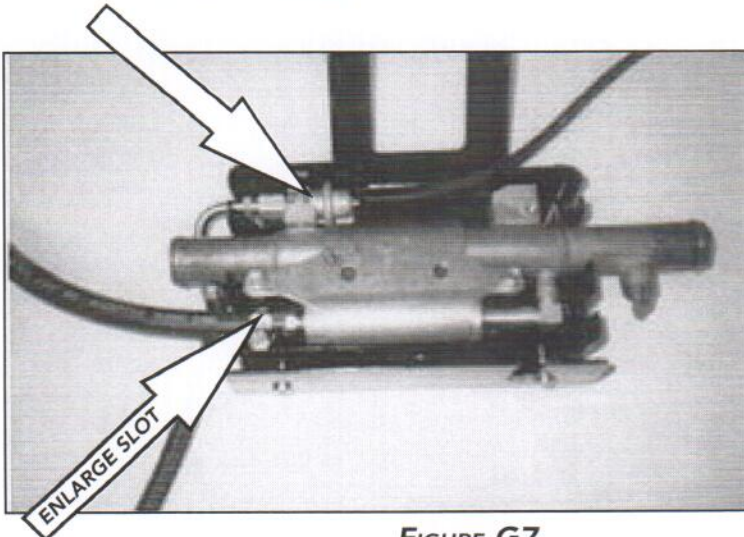

FIGURE G7
1. Locate the stock fuel pump enclosure adjacent to the port side engine mount. Detach the assembly from the motor. Remove the plastic cover and the metal bracket retaining the pump and fuel cooler. Remove the wiring harness from the pump. Review Figure G7.
7. With a round file, enlarge the slot in end of fuel box and the cover to allow for the supplied 3/8" fuel line. Install supplied fuel system interface and fuel cooler into box (see figure G7). Connect the fuel outlet line from the fuel pump to the barb fitting on the interface and secure with hose clamp. Re-install retaining bracket and plastic cover. Re-attach the assembly to the motor.